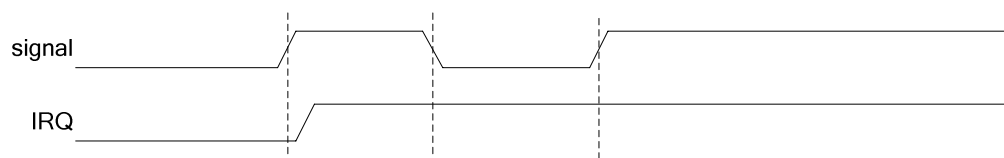
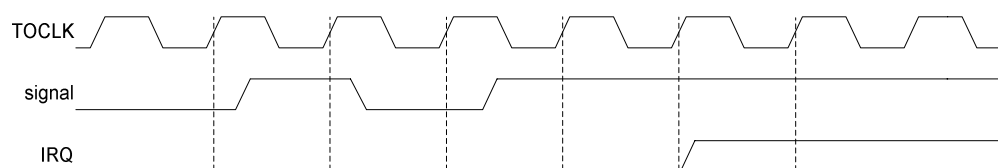
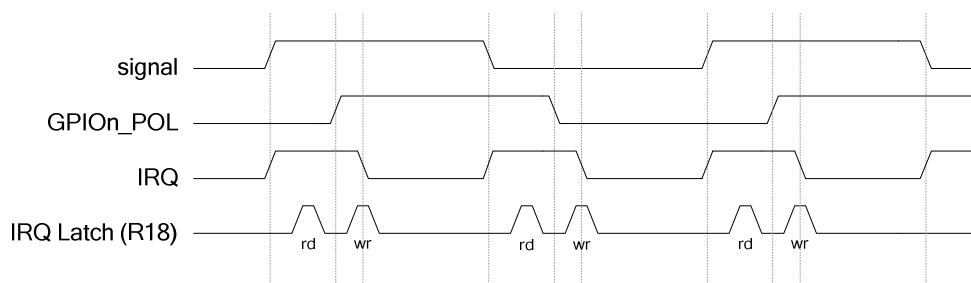

Figure 47 GPIO Latch
Figure 48 GPIO De-bounce
Figure 49 GPIO Edge Detect
Three typical scenarios are presented in the following Figure 47, Figure 48 and Figure 49. The examples are:
- Latch a GPIO input (Figure 47)
- Debounce and latch a GPIO input (Figure 48)
- Use the GPIO_n_POL bit to implement an IRQ edge detect function (Figure 49)